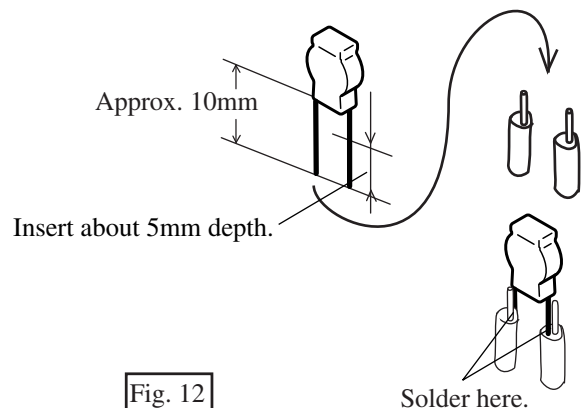

Fig. 12
(3) Assembling new Varistor (See Fig. 12)